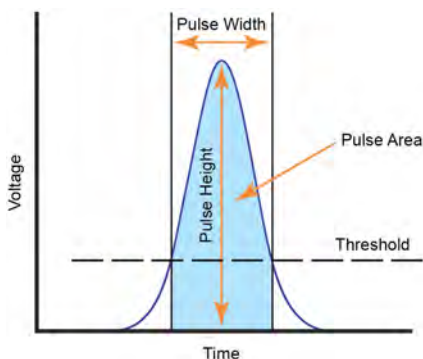

Figure 1-9 Pulse Measurements
When a cell or a particle passes through the optical detection point, a Gaussian-shaped electronic pulse will be generated from the optical detectors. The amplitude of the generated pulse is proportional to the intensity of the optical signal, which indicates the properties of the cell or particle (FSC and SSC) and the amount of the fluorochrome associated with it. Such electronic signals generated by the optical detector are further amplified, filtered and converted into digital signals by the high-speed, high-precision Analog-to-Digital Converter (ADC). The digital signals are processed and analyzed by algorithms programmed with high-performance field-programmable gate array (FPGA) to reveal the flow cytometry characteristics of the cell or particle, including FSC, SSC, and fluorescence signals. All the signals with amplitudes higher than the set threshold would be processed by the NovoCyte electronic system. Parameters extracted from the pulse signals include Width (W), Height (H) and Area (A), which are illustrated in Figure 1-9.